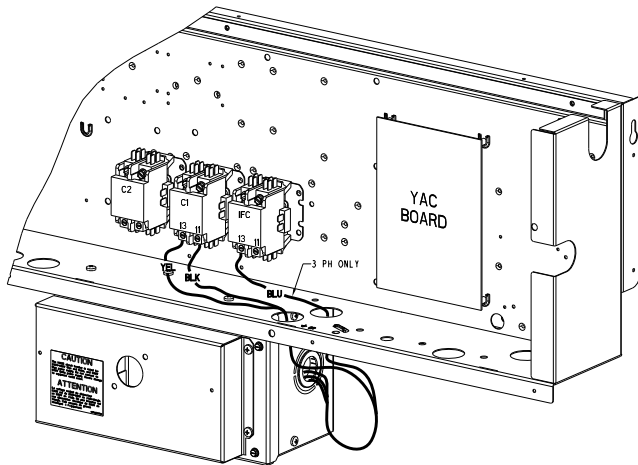

Fig. 34 — HACR Enclosure Location
2. Remove (3) hex screws on the HACR enclosure — (2) on the face of the cover and (1) on the left side cover. See Fig. 34.